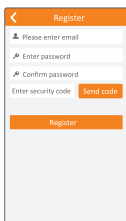

Figure 2
- If you have not an account, please click on "**Register**" in the login page, as shown in Figure 2, follow the prompts and enter verification information to complete account registration.